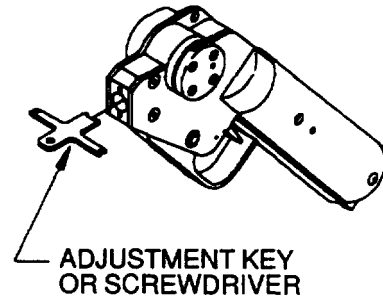

Figure 2-103. Adjustment of Safety Cable Indenter (Same for Hand or Pneumatic Tool Models)
(2) Adjust the push-rod adjustment screw with a flat blade screw driver, or the manufacturer supplied adjustment key. See figure 2-103. Turn the push-rod adjustment screw clockwise to loosen the crimp (enlarge the gaging dimension), or counterclockwise to tighten the crimp (reduce the gaging dimension). Replace the nose assembly and the two 8-32 socket head cap screws, being sure that they are firmly tightened. Check calibration as previously described.